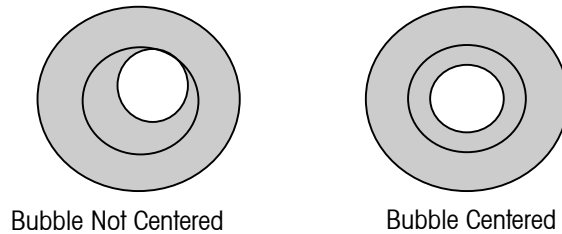

Figure 2-1
- Level the unit by turning the adjustable feet while using the level bubble on the side of the scale base as a guide. When the level bubble is centered, the base is properly leveled. (Figure 2-1).